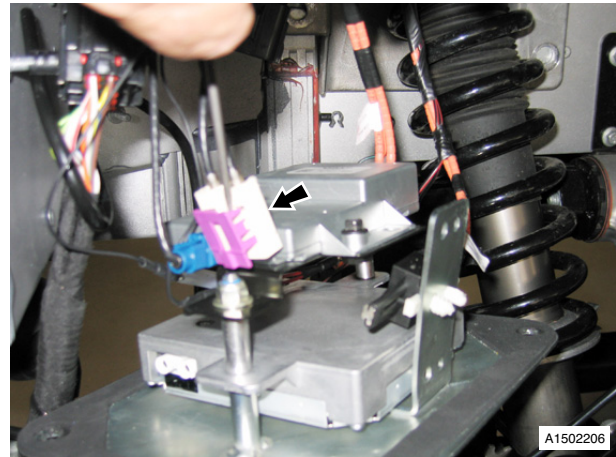

Fig. 5
12. Mark fitted position, release clip, remove AM antenna cable from multiplug (see Fig. 5).